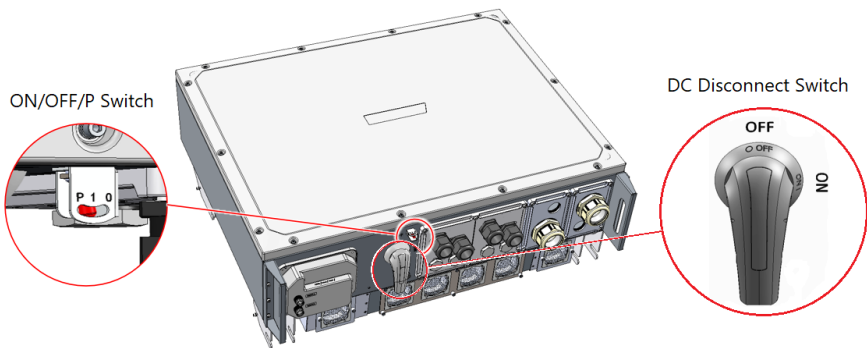

Figure 33: ON/OFF/P Switch and DC Disconnect Switch
1. Move the inverter ON/OFF/P switch to OFF (0), as shown in *Figure 33*.